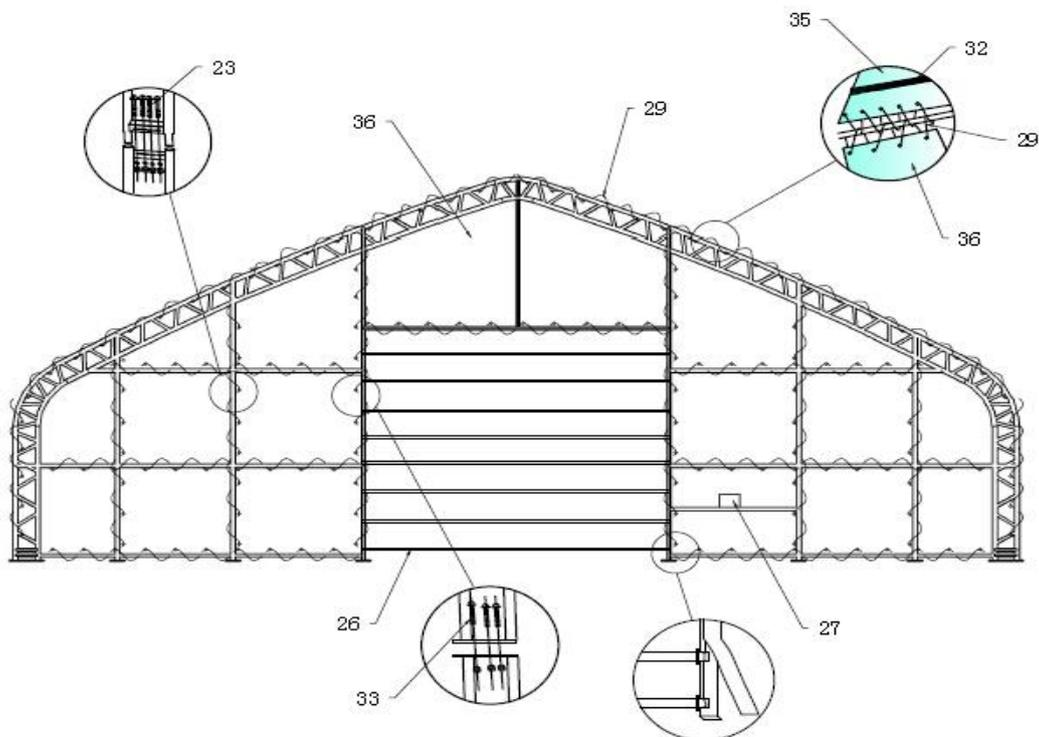

Figure 6
2. Same way to assemble the Back door. (See Figure 6)